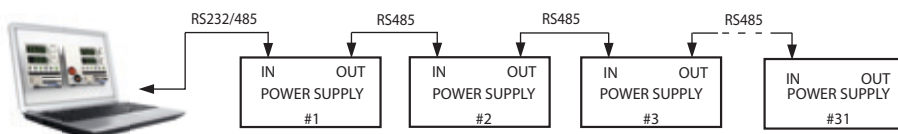

Fig.7-6: Multi power supplies RS232/485 connection
2. Other unit connections: The other units on the bus are connected via their RS485 interface. Refer to Figures 7-6 and 7-7 for typical connections.